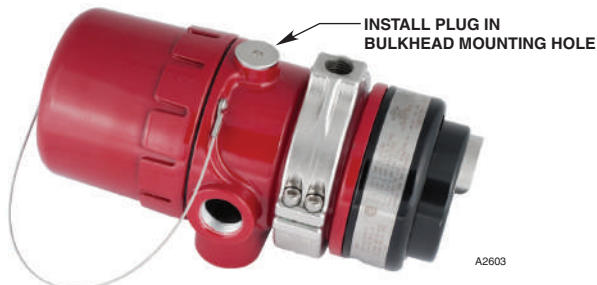

Figure 5—Correct Installation of Collar Attachment to Detector
5. Using the 5 mm hex wrench, remove the bulkhead plug from the top half of the collar attachment and install it in the detector bulkhead mounting hole (to prevent corrosion). See Figure 5.